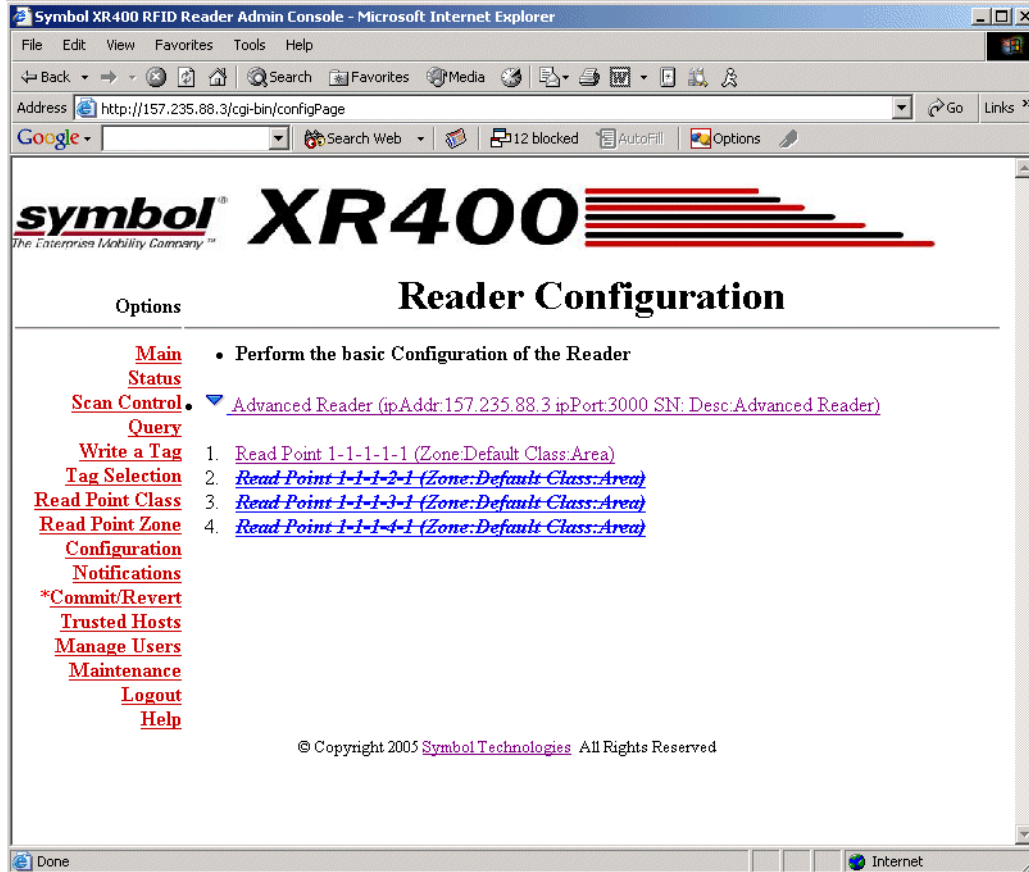

Figure 3-21. Reader Configuration Window
1. Select the specific read point from the *Reader Configuration* window, shown in Figure 3-21.